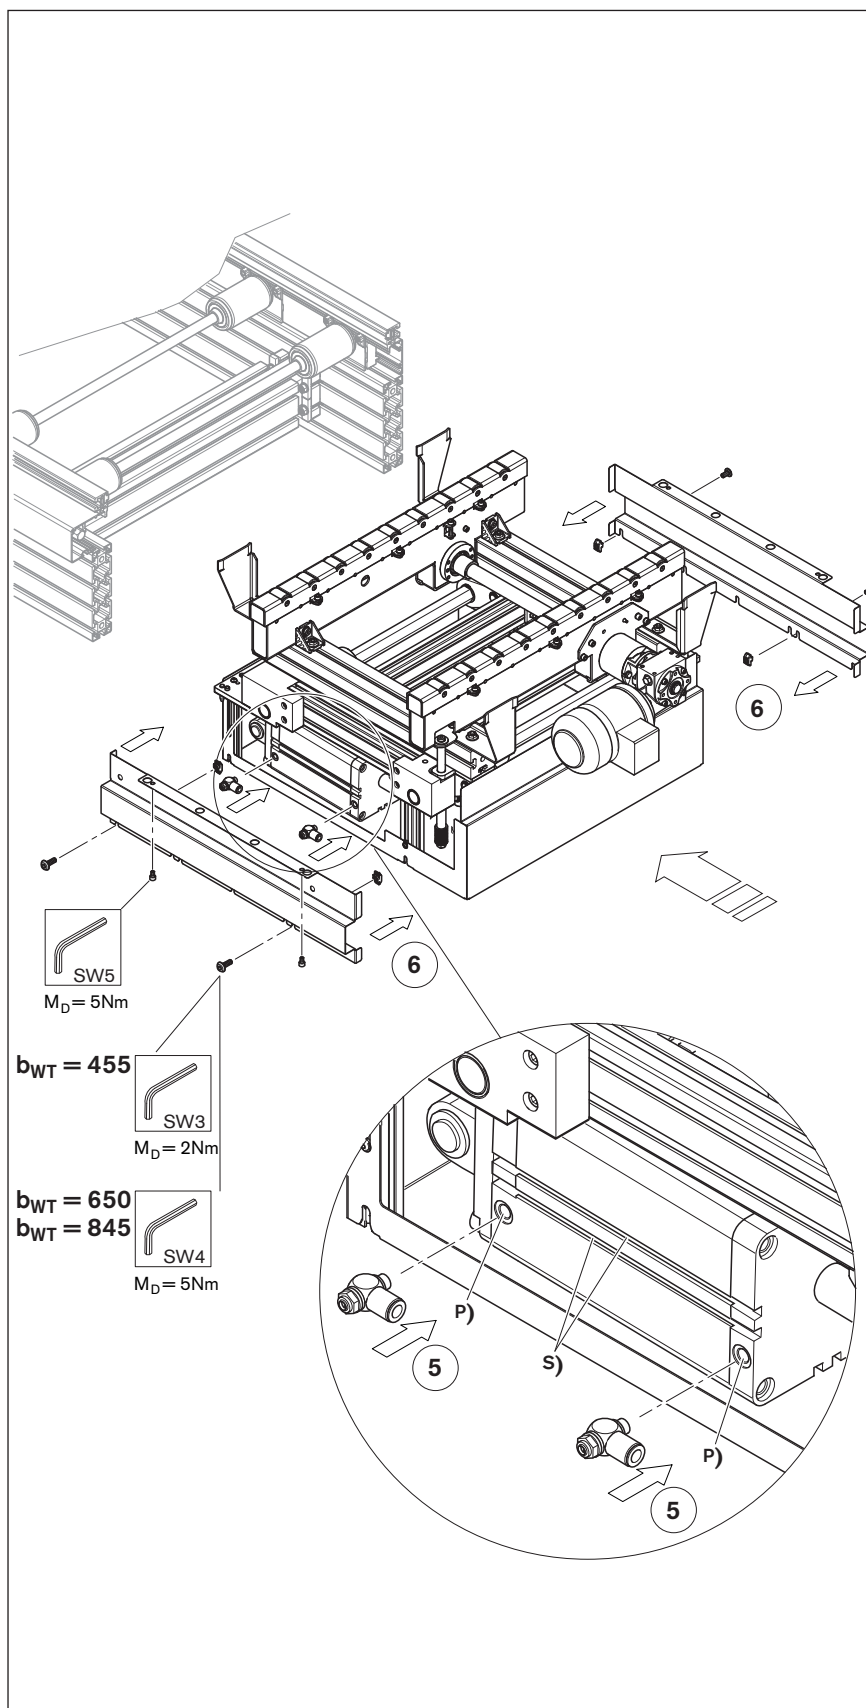

Fig. 62 HQ 5, assembly from the bottom (4/4)
9. Assemble the switch bracket and proximity switch, and adjust the position (except $b_{WT} = 455$ mm) (Fig. 76, Fig. 62: step 7)